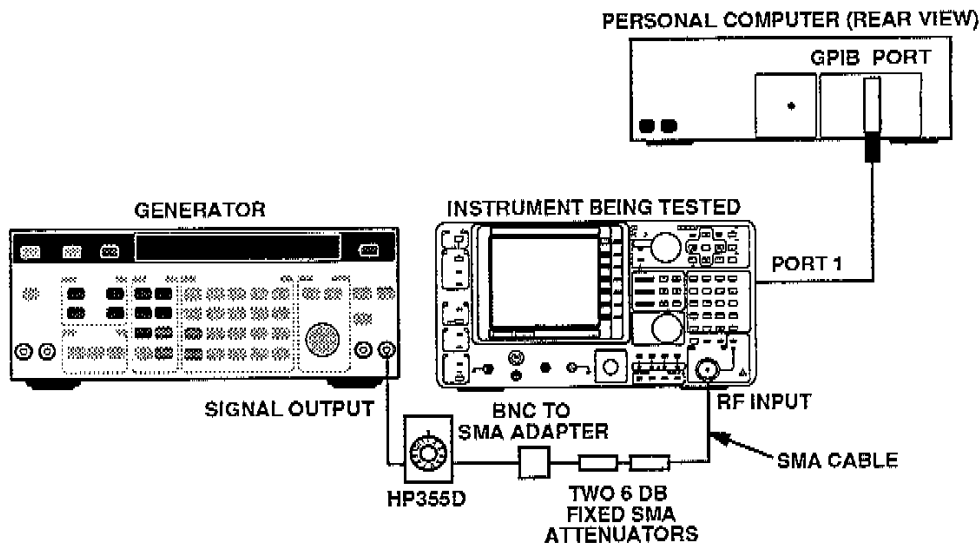

Figure 3-24. Test equipment connections for RF Attenuator Correction.
1. Connect the test setup as shown in Figure 3-24.